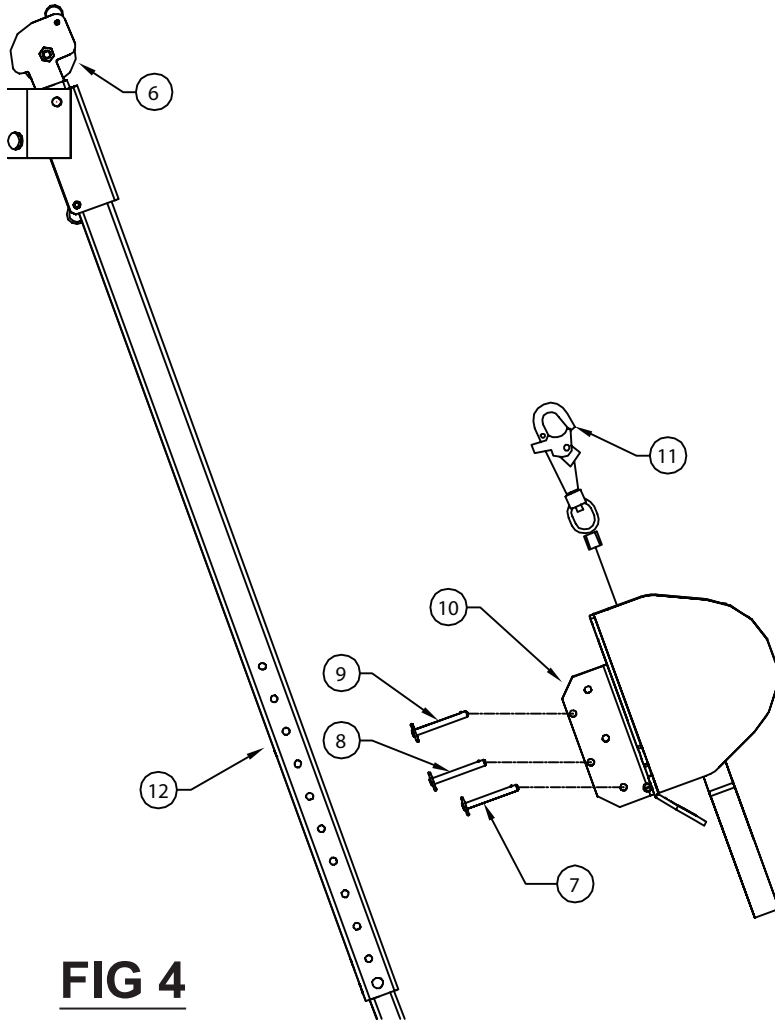

FIG 4
2. Remove winch mount pins[7], [8], [9] from winch mount bracket[10] and position the winch so that the cable[11] leaves the winch as shown (See Fig. 4).